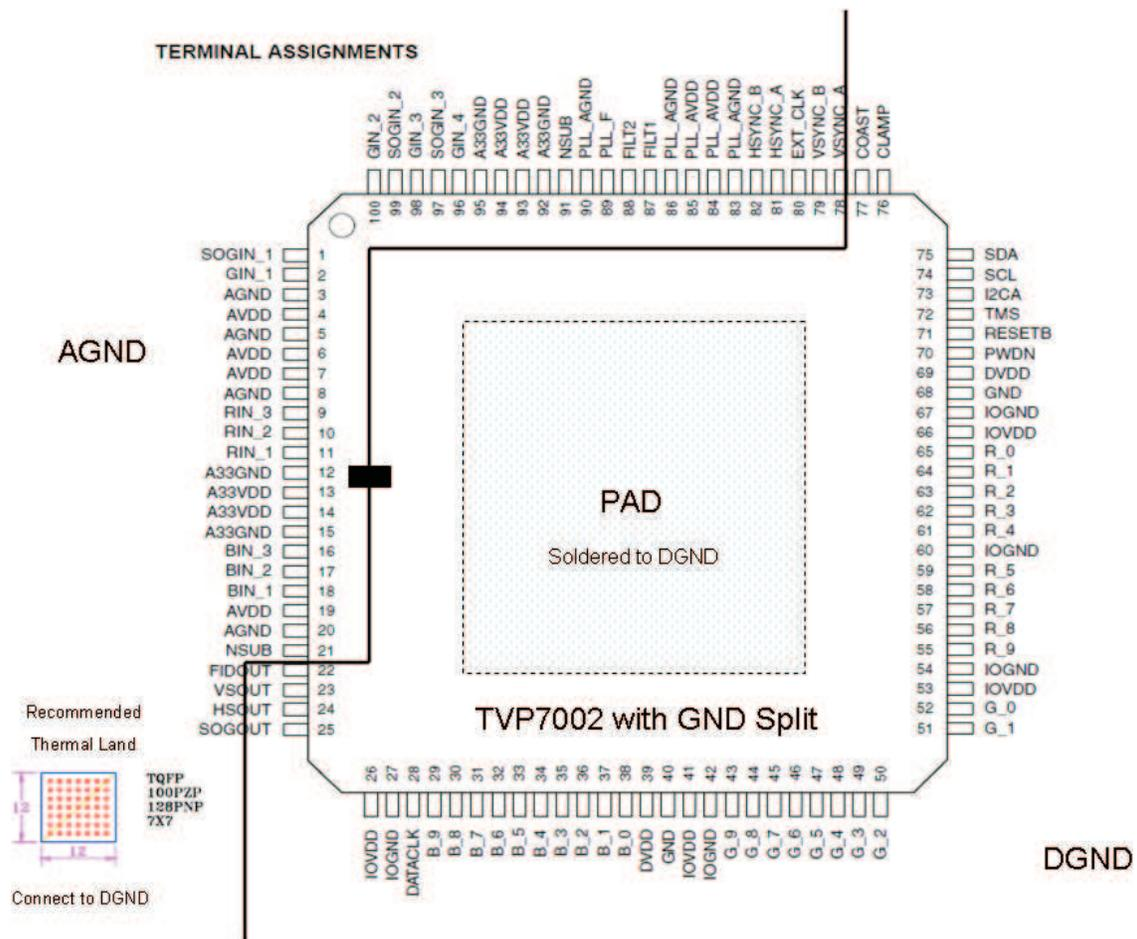

Figure 1. Recommended Split Between Ground Planes
- See Figure 1 below for recommended GND split when split planes are used.